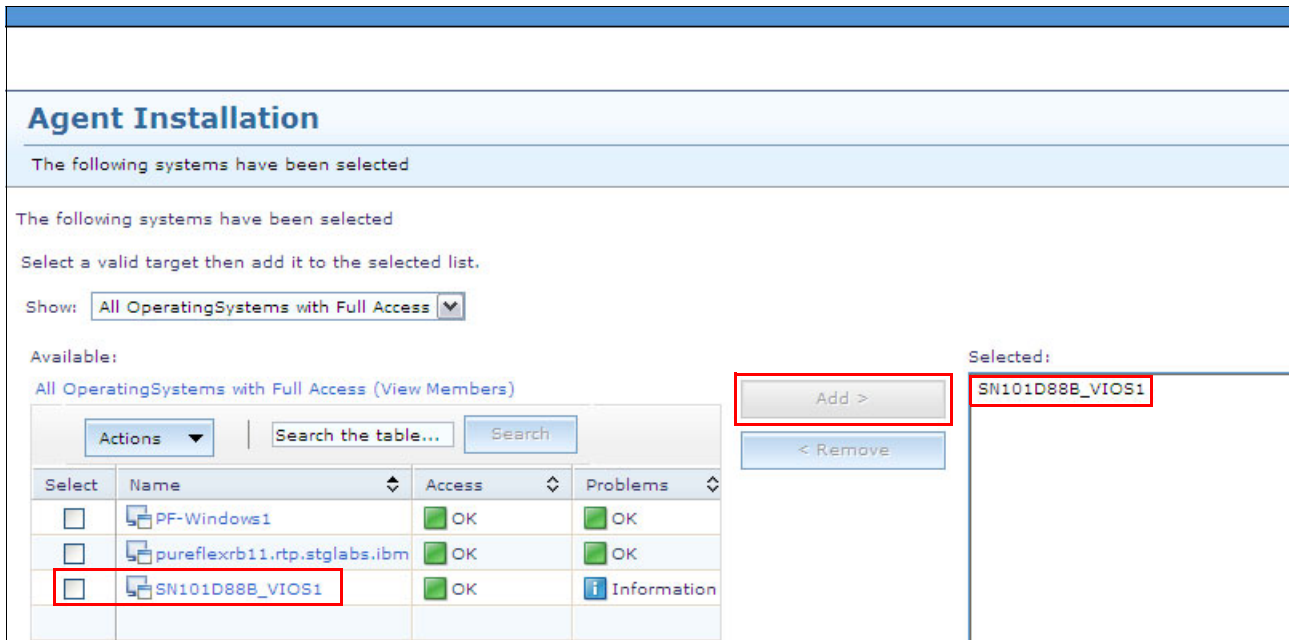

Figure 10-89 Selecting a target VIOS
4. Select a VIOS to deploy an agent, as shown in Figure 10-89.